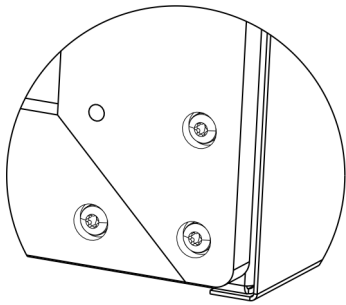

Fig. 3: Detailed view of mounting plates
3. Secure the 4 mounting plates to the underside of the unit using the 12 Torx countersunk screws M6 x 16. The countersinks in the mounting plates must face outward Fig. 3.